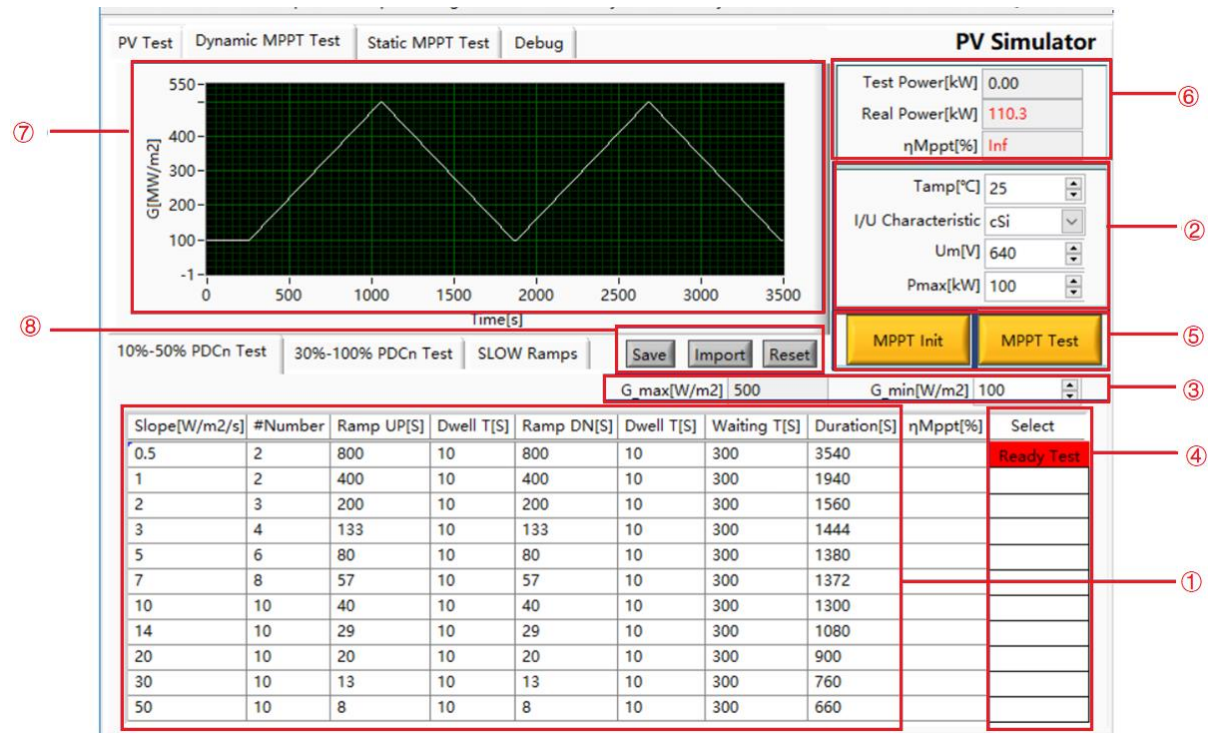

Figure 5-15 Dynamic MPPT test
Set the temperature (Tamp), I/U characteristics (crystalline silicon/thin film mode), Um, Pmax, initial irradiance and other parameters (Figure 5-15②③), click to switch the state of the test line to the
ready state (Figure 5-15④), Click "Initialize button" (MPPT Init) → "MPPT Test button" (MPPT Test) (Figure 5-15⑤), the software will automatically calculate and display the real-time parameters during the test (Figure 5-15⑥), and generate a simulation curve in the waveform display area (Figure 5-15⑦). After starting the MPPT test, the remaining test time will be displayed according to the test progress, and the corresponding status will be displayed; after each line is executed, the dynamic maximum power point tracking efficiency η_{Mppt} will be calculated. After the test is completed or the test is stopped, the MPPT test parameters in the table return to the initial state.